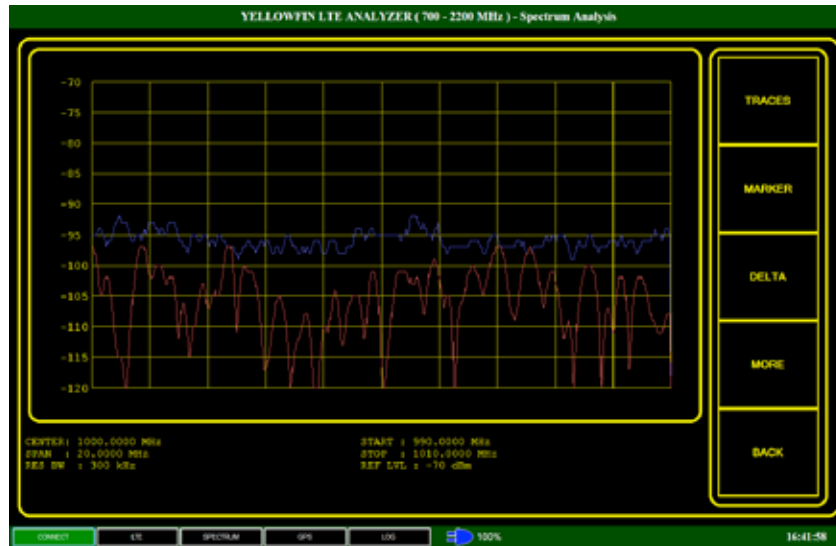

Figure 2. Spectrum Analyzer Screen
Selecting this button makes the analyzer function as a typical Spectrum Analyzer (SA). The corresponding screen appears in Figure 2: